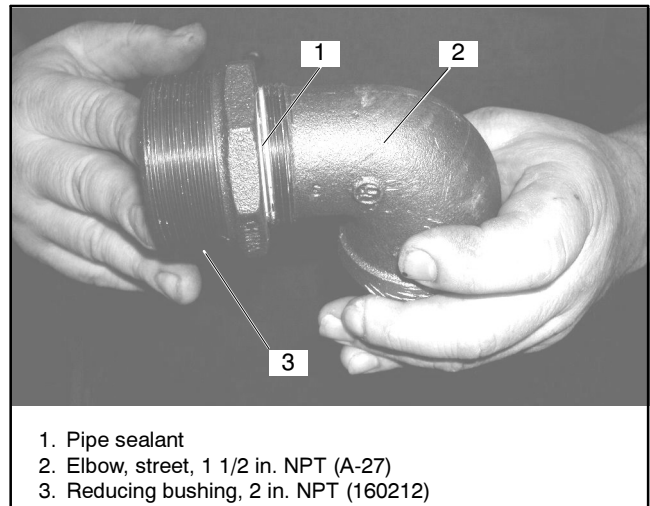

Figure 15 Bushing 160212 and Elbow A-27 Subassembly
2.2.2 Apply pipe sealant to bottom threads on 1 1/2 in. NPT street elbow A-27. Attach 2 in. NPT reducing bushing 160212 to elbow and tighten securely. See Figure 15.